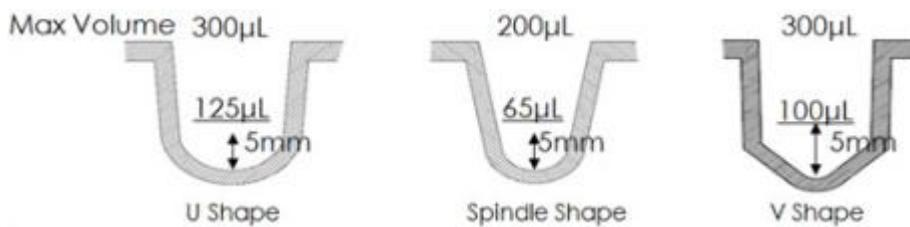

Figure 1: Well bottom shapes [1]. The U shape (left) or V shape (right) are suitable for measurements with Optics11 probes.
1. Use U or V-shaped well plates (see **Figure 1** below). Keep in mind that there are limitations to measurements in such plates due to the geometry of our probes. Only larger samples which are centered are reachable with Optics11 probes. Larger spheres allow reaching lower in the well. **Note:** the largest sphere that can fit inside well plates is 50um, as larger radius probes are only for Piuma and Chiaro and do not fit inside 96 well plates.